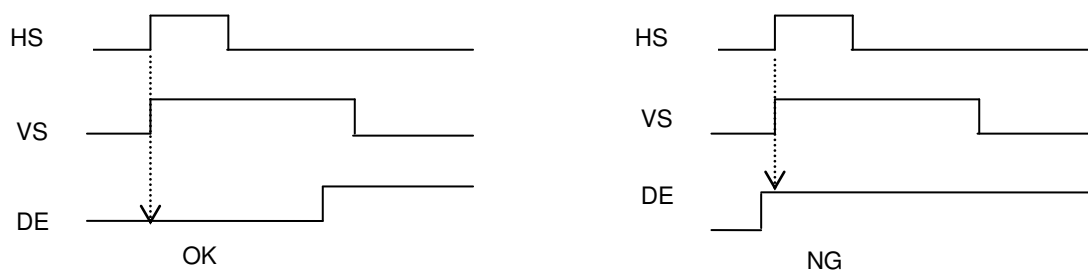

Figure 9.1.10 LVDS input Restriction 3
③DE must be 0 when VS and HS are rising. (see Figure 9.1.10) (Except DE-only Mode)